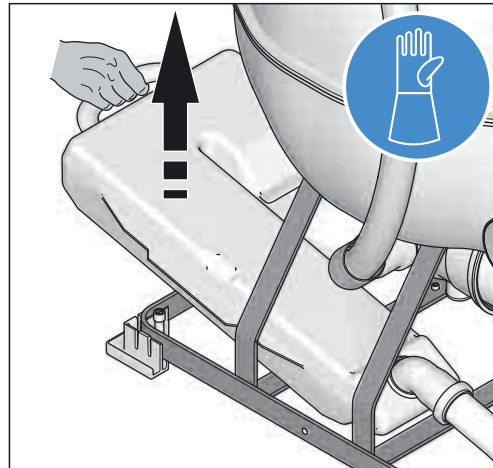

Fig. 9-6 Emptying the condensate box
3. Lift the condensate box and empty it through the connection hose (fig. 9-6).